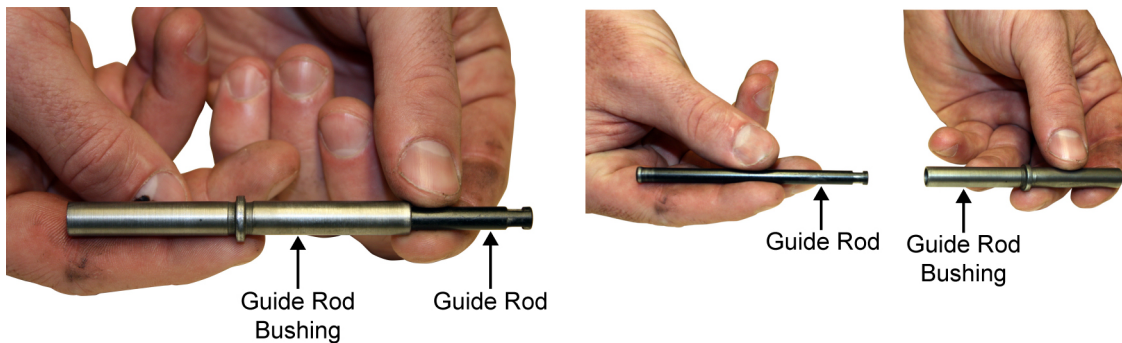

Figure 5. Removing the Guide Rod from the Guide Rod Bushing.
- Slide the guide rod through the guide rod bushing and out the other side of the bushing. Refer to Figure 5.